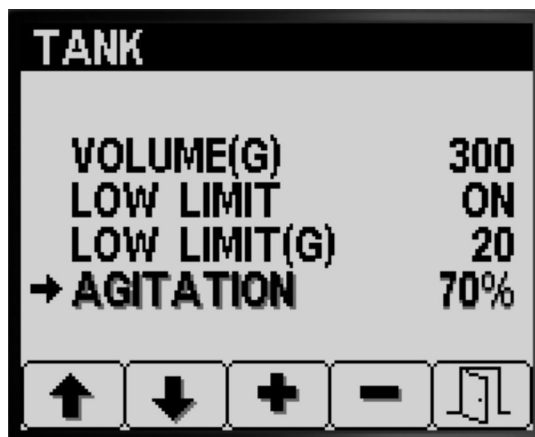

Figure 15
4. Press button 1 or 2 to navigate to the AGITATION option (Figure 15).
5. Press button 4 to select the AGITATION entry (Figure 15).
6. While watching the dash mounted sprayer-pressure gauge, press button 3 or 4 to raise or lower the preset value until the sprayer pressure is at the initial agitation preset pressure that you calculated in step 2 (Figure 15).